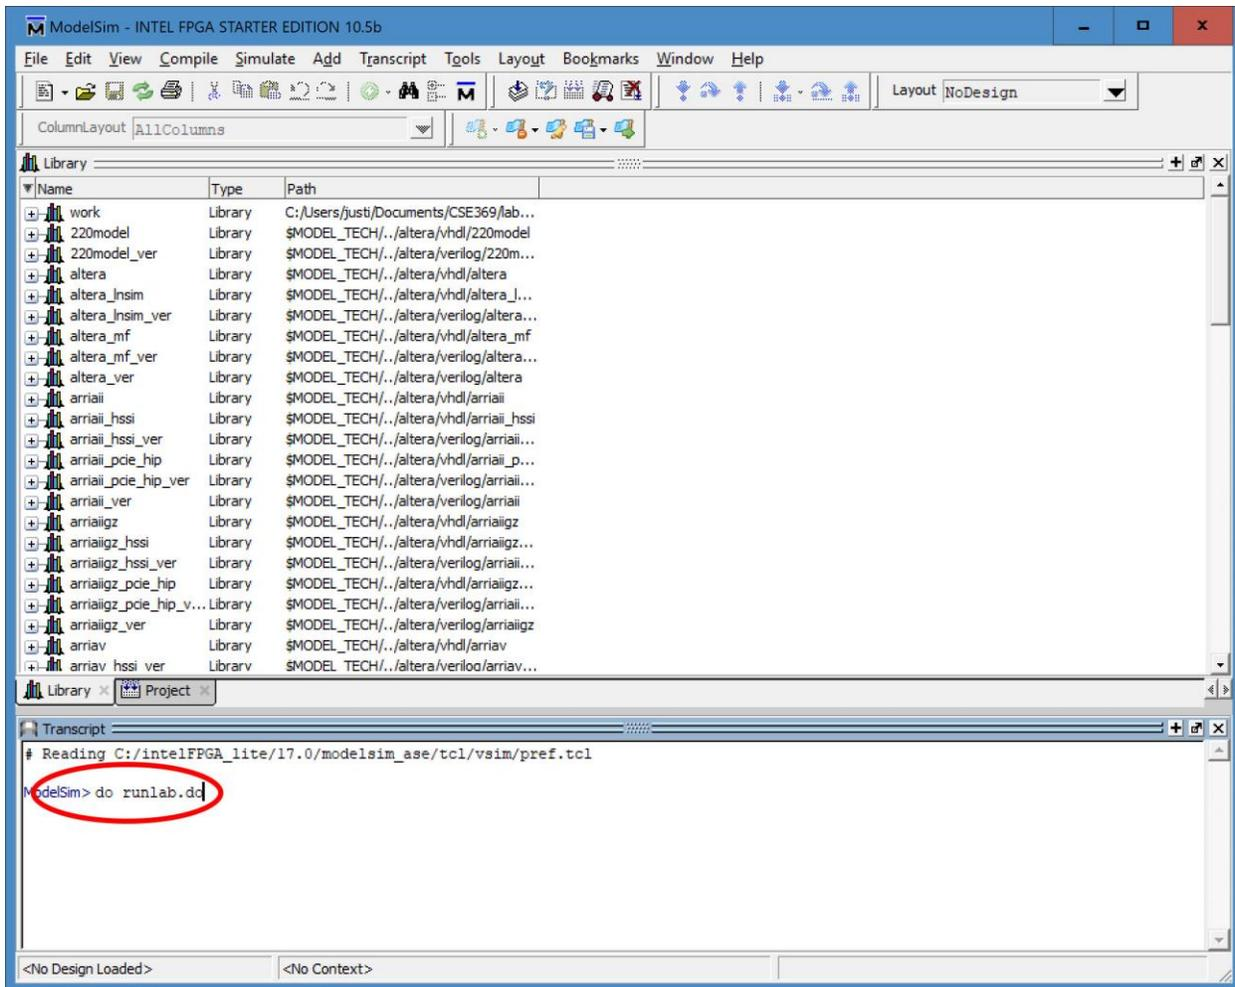

Figure 5: Entered the command "do runLab.do" into the Transcript pane. Press <Enter> to issue the command.
- 2) **Simulate the circuit by issuing the command “do runlab.do” in the Transcript pane.** The Transcript pane can be found at the bottom of the ModelSim window (*Figure 5*). The *runLab.do* file will compile and run the simulation for *mux2_1*.